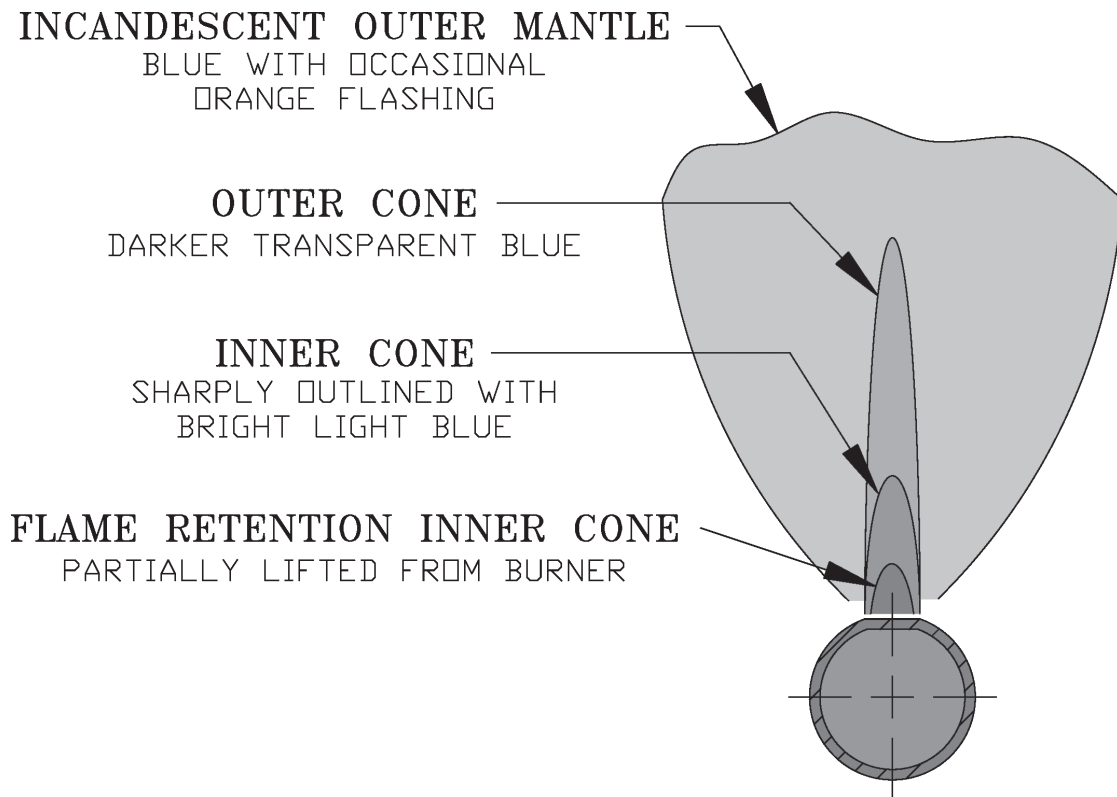

Figure 5: Main Burner Flame
5. Check main burner flames. See Figure 5. Flame should have clearly defined inner cone with no yellow tipping. Orange-yellow streaks caused by dust should not be confused with true yellow tipping. If yellow flames are observed, follow instructions TO TURN OFF GAS TO APPLIANCE (see Figure 2), and contact qualified service agency.